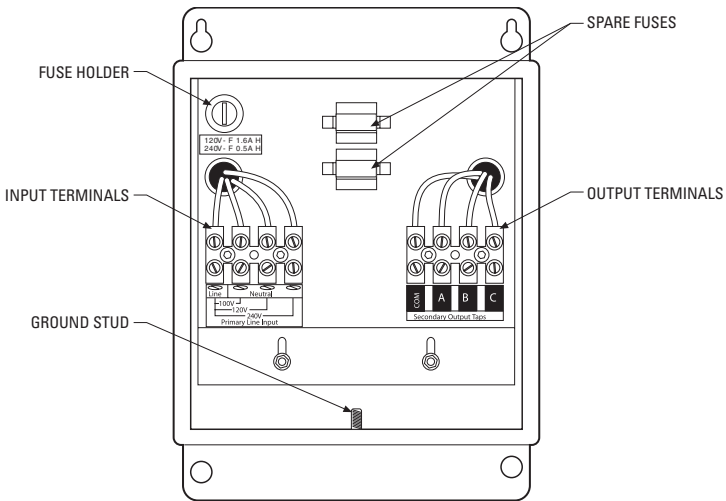

Figure 4. Wiring Connector Diagram
To change the fuse remove the lid to the fuse holder (refer to figure 4) located inside the power supply and then install the new fuse. Store extra fuses (supplied) in the spare fuse holders.
To install the input power wires to the WCS1-4 power supply, refer to Figure 4 and do the following:
To install the output wiring to the camera, dome, or positioning system, refer to Figure 4 and do the following:
1. Refer to Table A and determine the output connection needed for your camera, dome, or positioning system. Refer to Figure 4, for the proper connector strip connections.